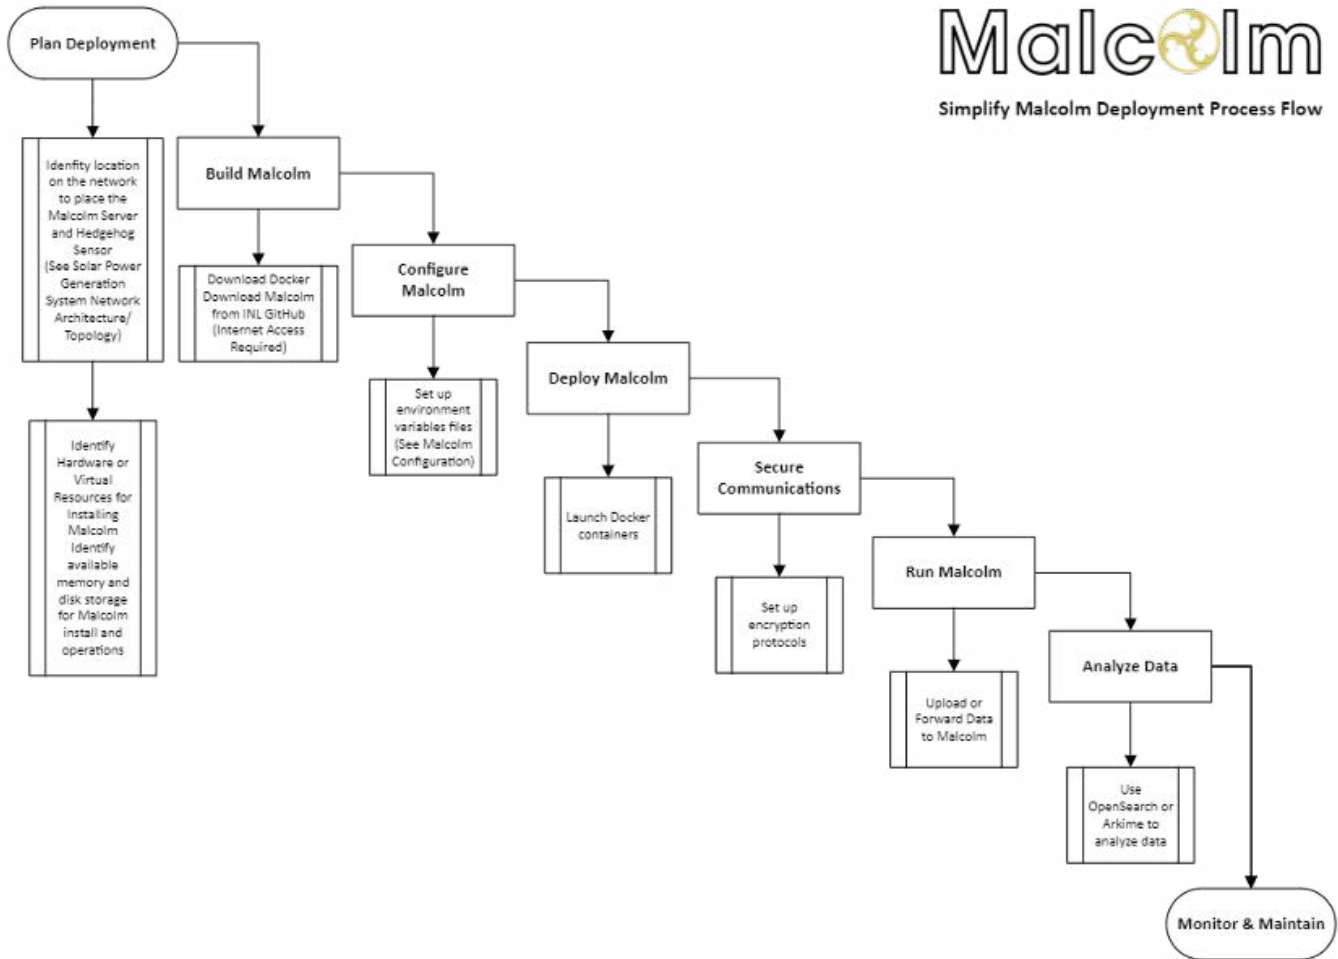

Figure 1. Malcolm deployment process
The Malcolm Deployment process starts with planning and requires Information Technology (IT) and Industrial Control Systems (ICS), or Operational Technology (OT) personnel working together to enable a successful selection of the deployment location and identified hardware requirements (See Figure 1). IT professionals will be key to supporting the building and configuring of Malcolm prior to deploying the docker containers. Once Malcolm is installed and started, the Malcolm containers can be launched. The next step in this process will be to run Malcolm to begin the passive gathering of network traffic from the ICS/OT devices and systems within the Solar Power Generation system. As network traffic is gathered, both OT and IT personnel can begin to analyze the data and begin using Malcolm for asset identification, anomaly detection, and threat monitoring.